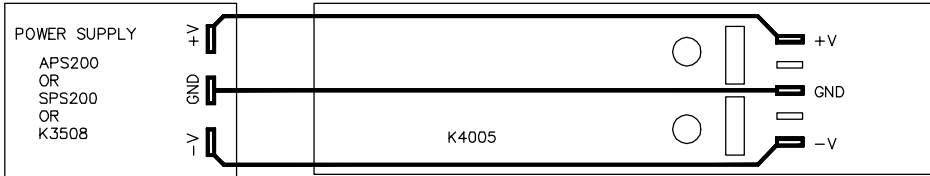

FIG. 7.0
- Connect a symmetrical power supply unit (possibly the APS200, SPS200 or K3508 module) of + and - 30 tot 45VDC to the positions GND (0V), -V and +V. See Fig. 7.0.